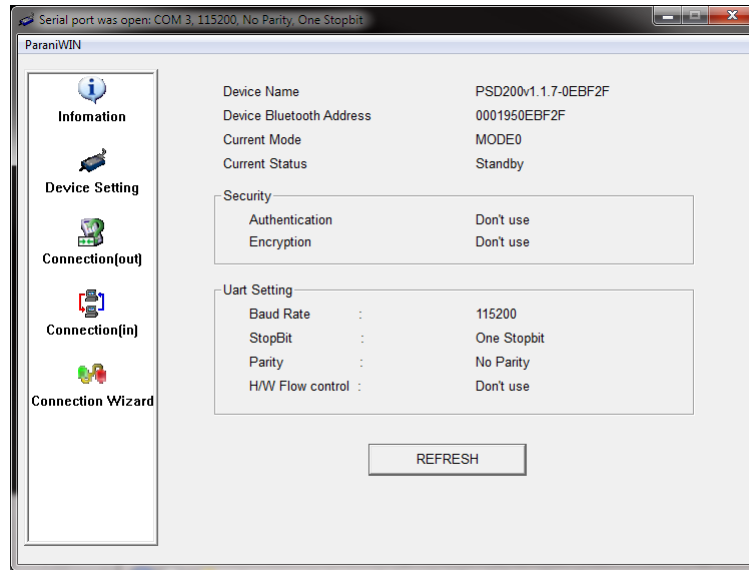

Figure 11: SD200 Device Information Settings Page
- 6) Open a second instance of ParaniWIN and choose the COM port of the SD200. Set **BaudRate** to **115200**, **Parity** to **None**, and **StopBit** to **1**. Click **OK**. ParaniWIN will connect and display the Device Information page as shown in Figure 11.